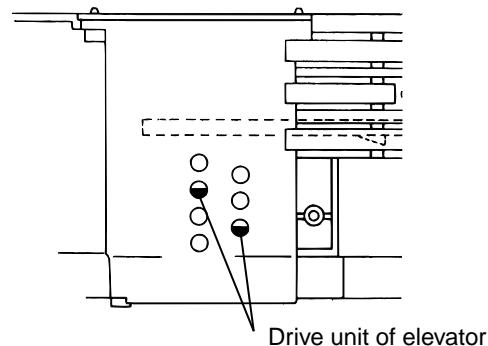
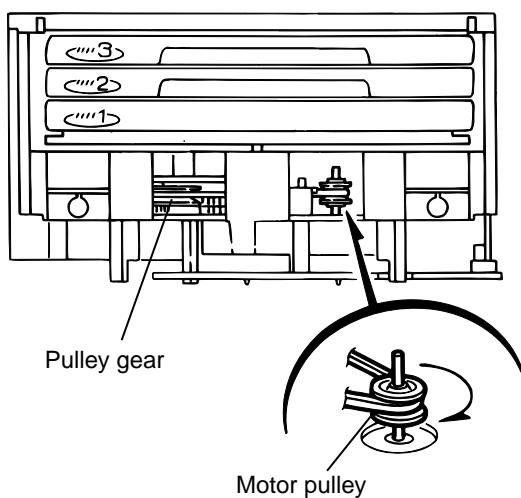

Fig.7
Fig.8
- [Caution]** In case the driver unit elevator is not at above position, set the elevator to the position as shown in Fig.7 by manually turning the pulley gear as shown in Fig.8.
13. Manually turn the motor pulley in the clockwise direction until the lifter unit stopper is lowered from the section "e" of CD tray assembly(See Fig.8).